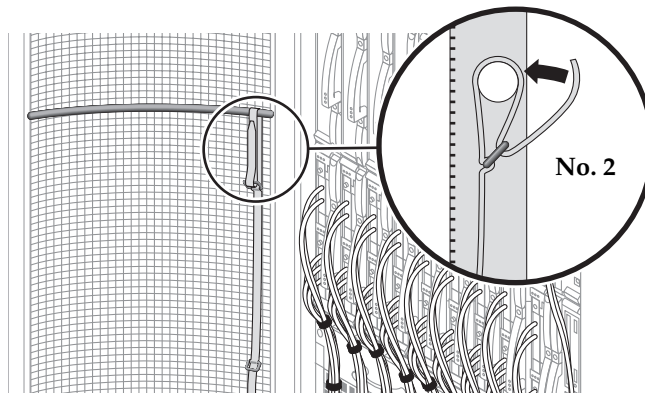

FIGURE 1-5 Rear door maintenance strap
1. **Attach the green buckle strap (No. 2) to the top crossbar on the hinged side of the cabinet door on the left (FIGURE 1-5).**
2. **Attach the green buckle strap (No. 2) to the top crossbar on the hinged side of the cabinet door on the right (FIGURE 1-5).**
1. **Attach the green buckle strap (No. 2) to the top crossbar on the hinged side of the door (FIGURE 1-5).**
2. Release the buckle and remove the green buckle strap (No. 2) from the top crossbar on the hinged side of the cabinet door on the left (FIGURE 1-5).
3. Release the buckle and remove the green buckle strap (No. 2) from the top crossbar on the hinged side of the cabinet door on the right (FIGURE 1-5).
2. Release the buckle and remove the green strap from the top crossbar on the hinged side of the cabinet door (FIGURE 1-5).